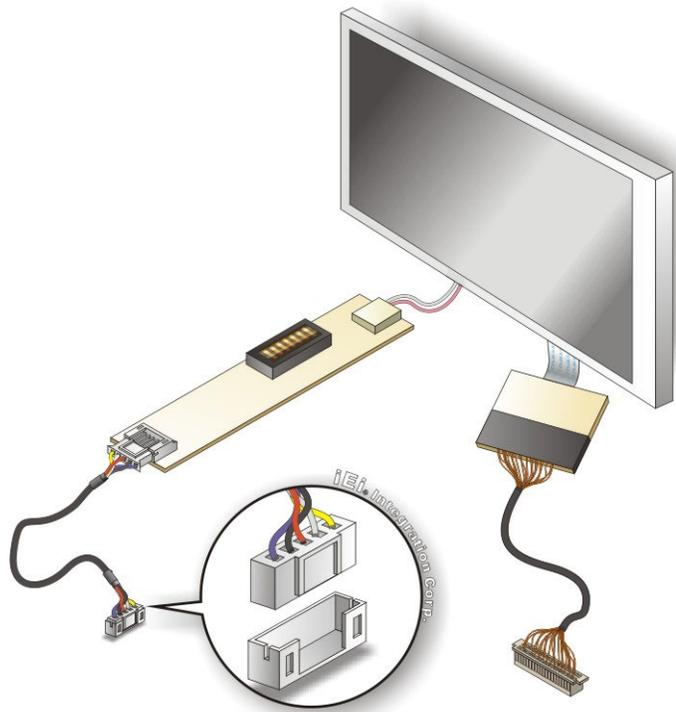

Figure 4-10: Backlight Inverter Connection
- Step 4:** **Connect backlight connector.** Connect the backlight connector to the driver TFT LCD PCB as shown in **Figure 4-10**. When inserting the cable connector, make sure the pins are properly aligned.